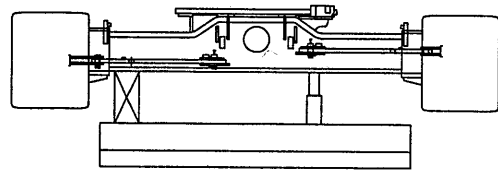

Fig. 11-13
- (6) Extend the crawler on the opposite side in the similar manner shown in the steps (2) thru (6). (Fig. 11-13)